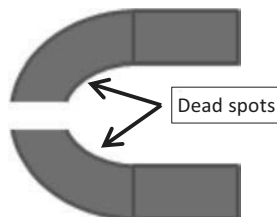

Figure 12.7 General purpose nozzle tip
- Dead spots may be present in a general purpose nozzle (Figure 12.7); it will need to be removed and cleaned to remove previous color or material